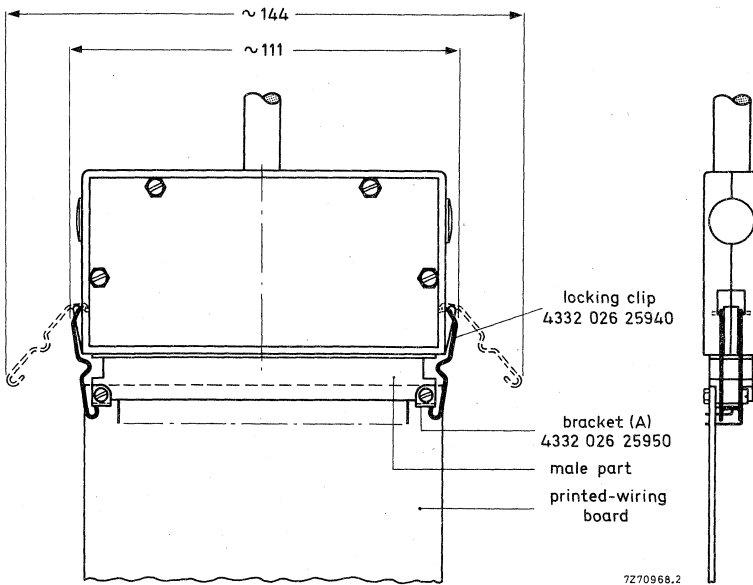

Fig. 42 Cable to printed-wiring board application.
bracket (A), see Fig. 42	25950